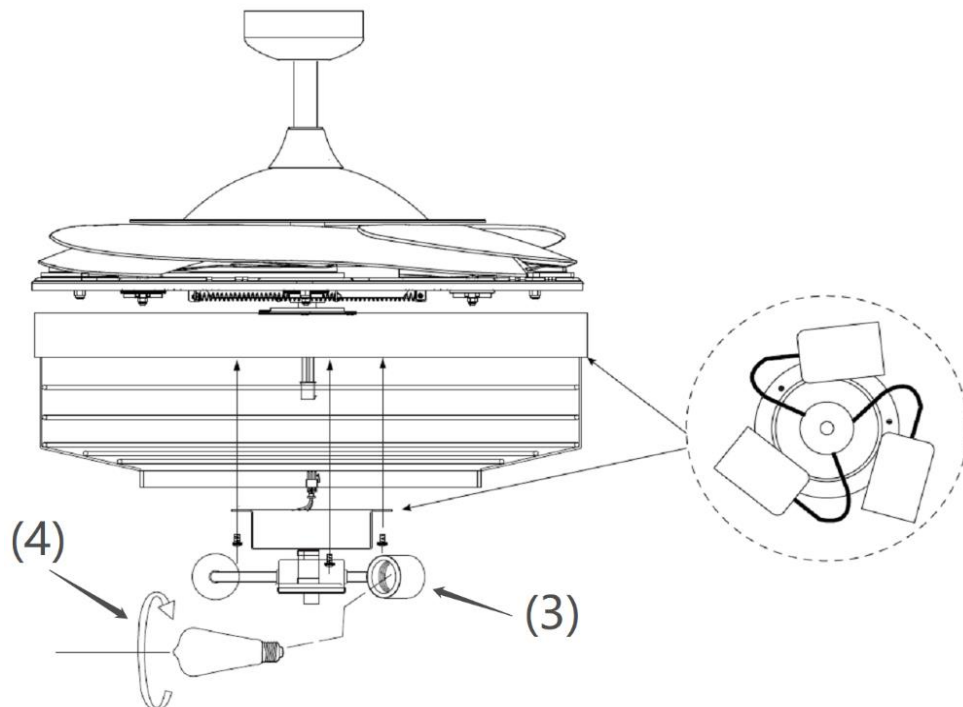

Fig. 7
4. Connect the quick connector to the lamp holder part (3). (Fig. 7)
5. Secure the lamp-holder part (3) to the light kit bracket by tightening the 3 screws. Do not over-tighten.
6. Install globes (4) into the lamp holders. Do not exceed the maximum power rating.